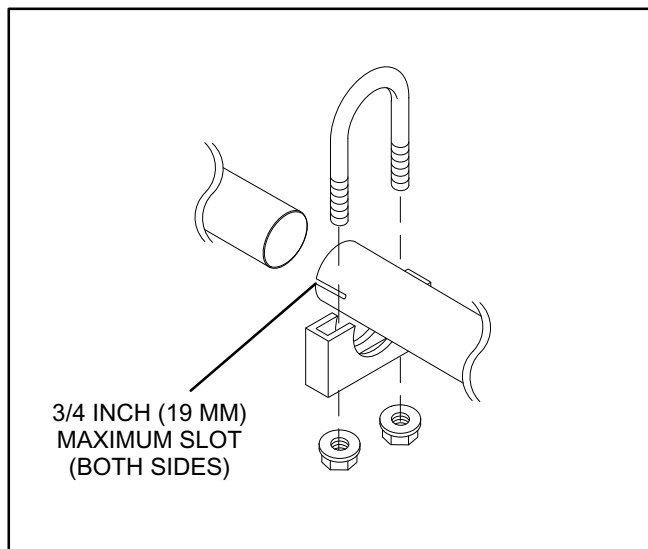

FIGURE 6. EXHAUST TAILPIPE CONNECTIONS
- Internal installation (fig. 6, page 13):
3. Use U-bolt muffler clamps (available from Onan) to connect sections of tailpipe. Overlapping pipe should be slotted (Figure 6).